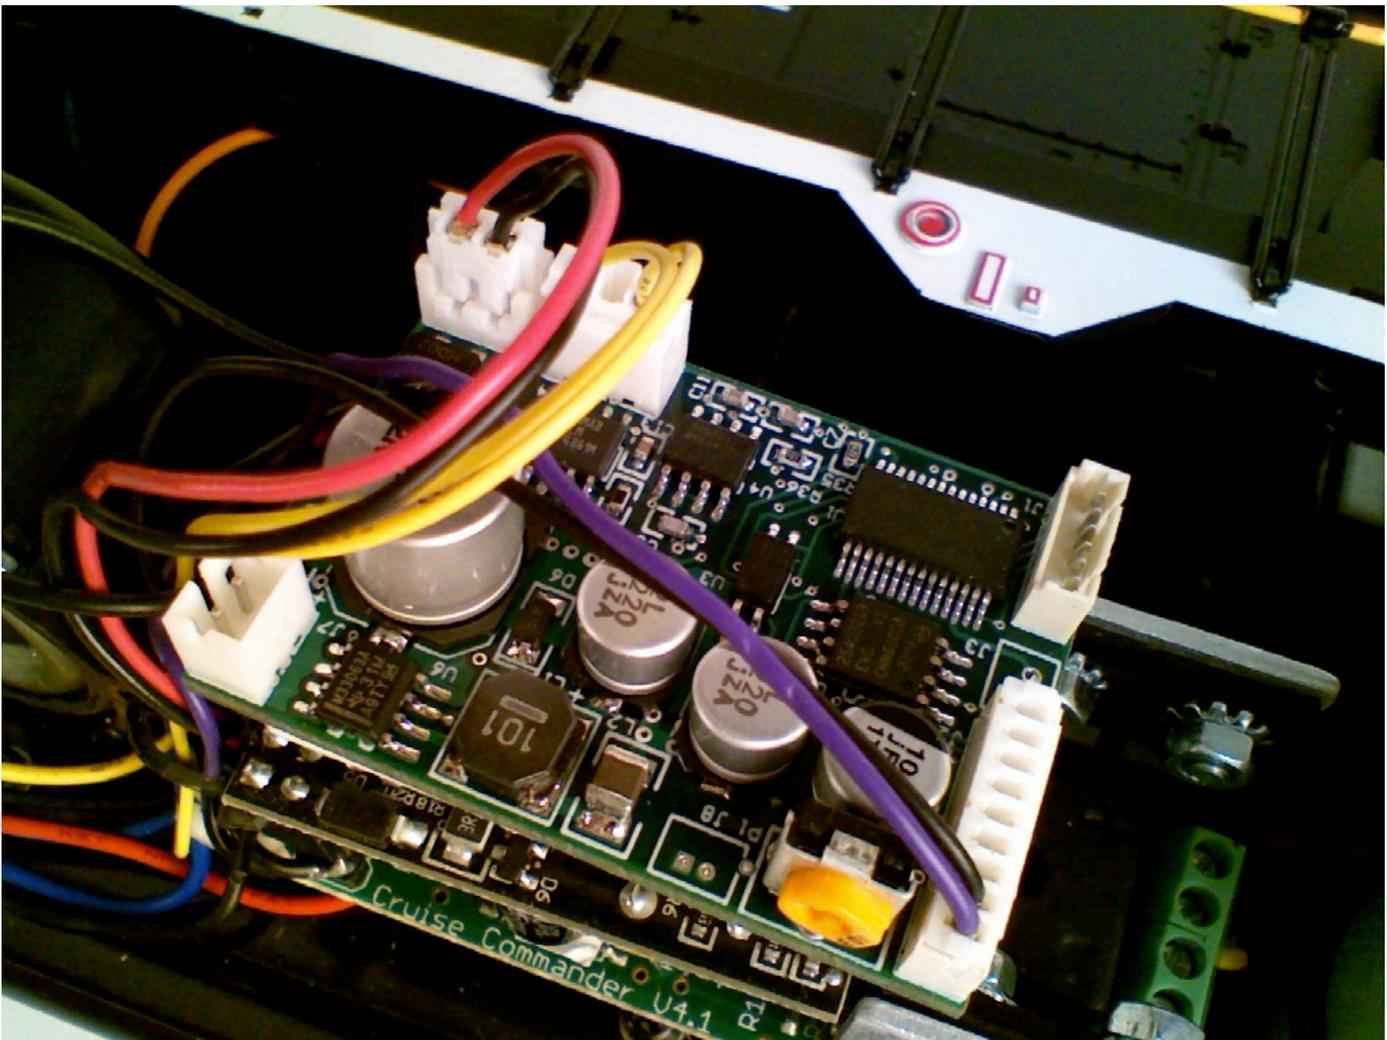

Figure 12 – Installation complete (battery clip not connected)
1. Locate the provided cable ties and, while referring to Figure 12, use them to secure the chassis wiring. Wires should be positioned so they will not be pinched between the chassis and shell or other parts. Avoid placing wires where they will be directly in front of windows for a better appearance. When complete, cut the cable ties to remove any excess length.